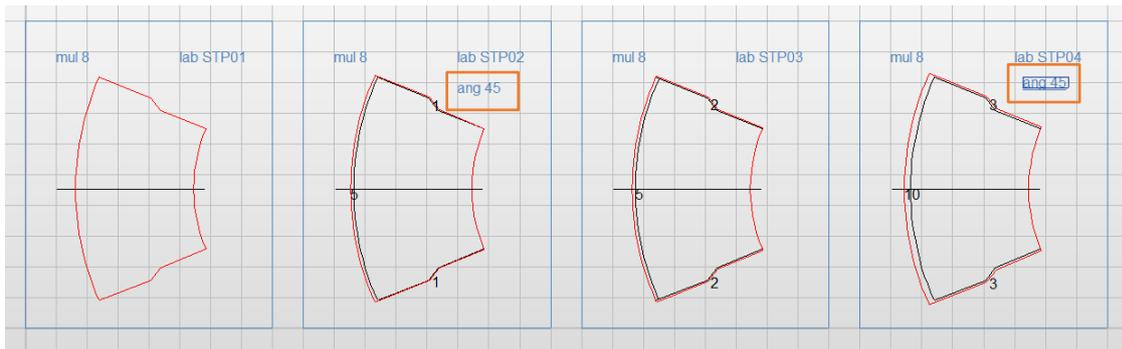

Figure 85
- e. Now we can add this command to our STP02 command frame (Figure 85).
- f. Since, we want to rotate all cuts of STP04 as well we can simply copy our -ang 45- command text (**-CTRL-** + **-C-** or copy button ) and paste it to the STP04 command rectangle (**-CTRL-** + **-V-** or paste button ) (Figure 85).